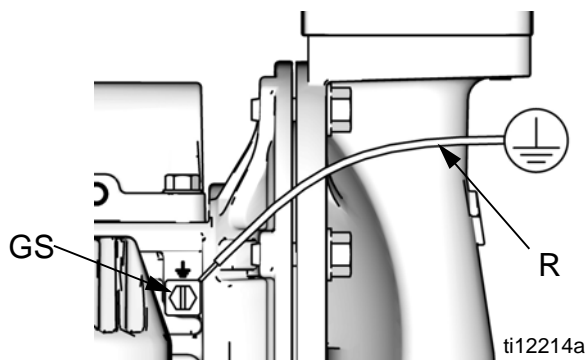

FIG. 1. Grounding screw and wire
Pump: See FIG. 1. Loosen the grounding screw (GS). Insert one end of a 12 ga. minimum ground wire (R) behind the grounding screw and tighten the screw securely. Do not exceed 15 in-lb (1.7 N•m). Connect the clamp end of the ground wire to a